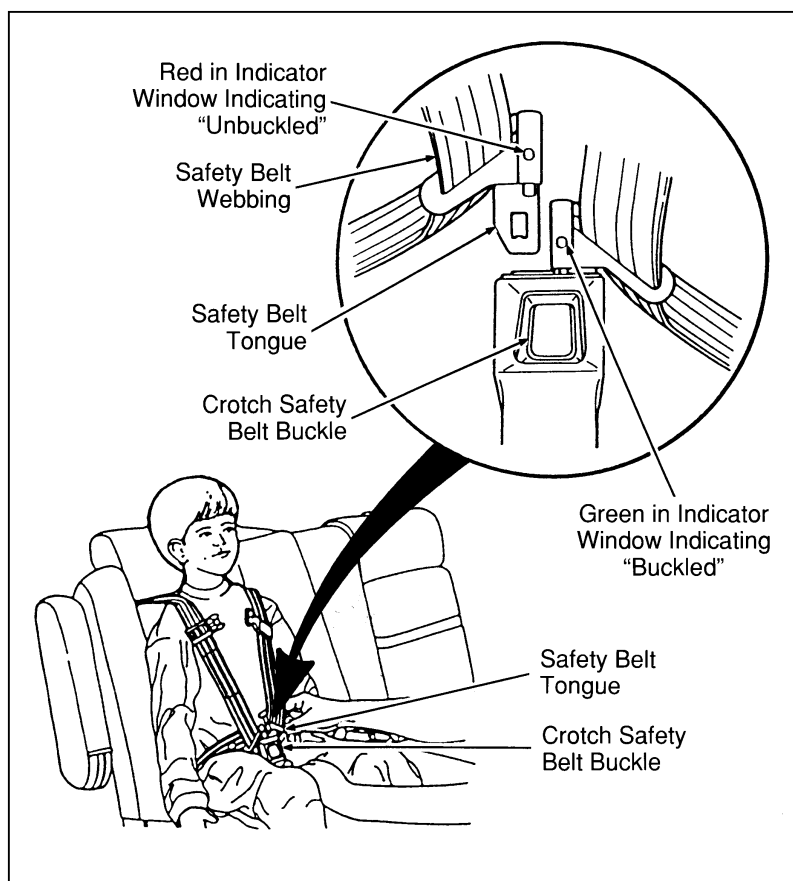

Figure 5: Fastening the crotch safety belt buckle
6. Insert either the left or right safety belt tongue into the single opening of the crotch safety belt buckle as shown in Figure 5. (It does not matter which tongue is inserted first.) Then insert the other tongue. The color green must appear in the indicator window on each tongue when buckled.